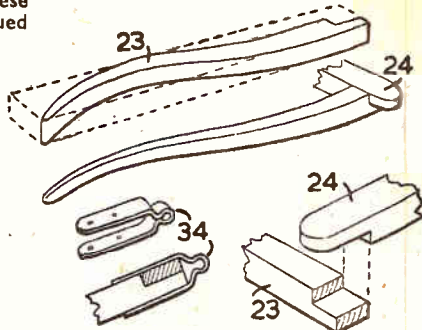
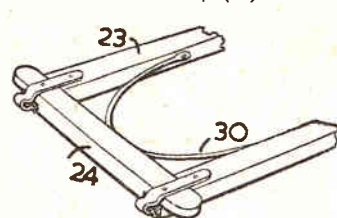

Fig. 6—How the shafts are made
Fig. 7—The shafts assembled
gin the job of making the shafts (23), details of which are shown in Fig. 6. Note carefully their shape, and how each is cut separately from a solid piece of wood. The connecting bar (24) is cut and shaped next, and the whole fixed together.
The stay (30) for the shafts is now shaped from wire, which should be carefully hammered flat at the three points at which it is pinned to the shafts (see Fig. 7). The pins should be small and care must be taken to make a clean job of the assembly. Pieces of wire are shaped and hammered in the same way
on the design sheet. Cut them from thin tin and shape as in Fig. 6, later pinning them to the shafts as in Fig. 7.